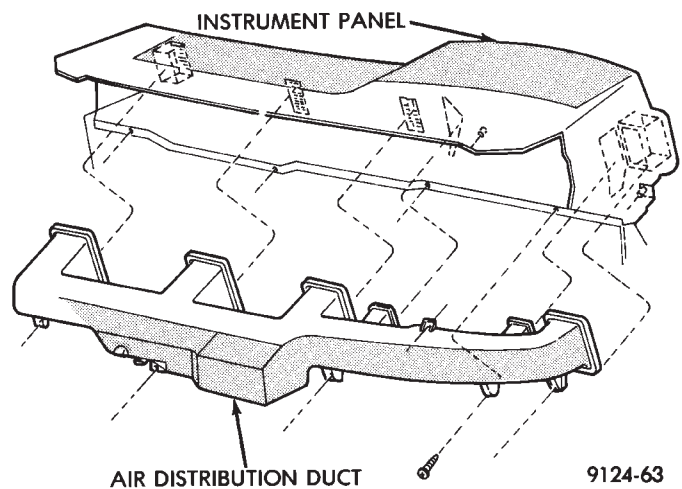

Fig. 13 Air Distribution Duct
(1) Instrument panel assembly must be removed. Refer to Group 8E, Instrument Panel.
(2) After instrument panel has been removed, separate the defroster/demister ducts from the air distribution duct.
(3) Remove the air distribution duct-to-instrument panel mounting screws (Fig. 13).